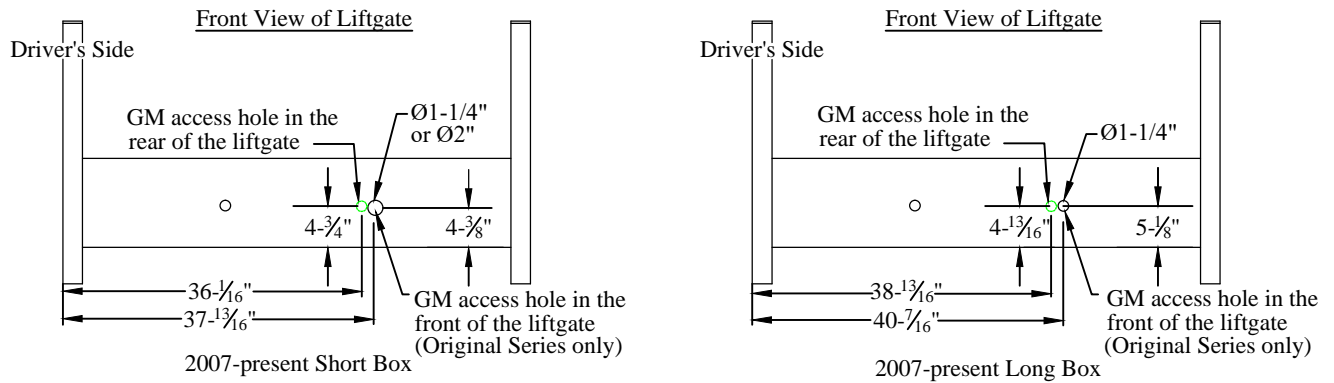

Figure 12: Spare tire access holes.
2. **Remove** the black plastic plug(s) from the mainframe in the location(s) shown (Figure 12).